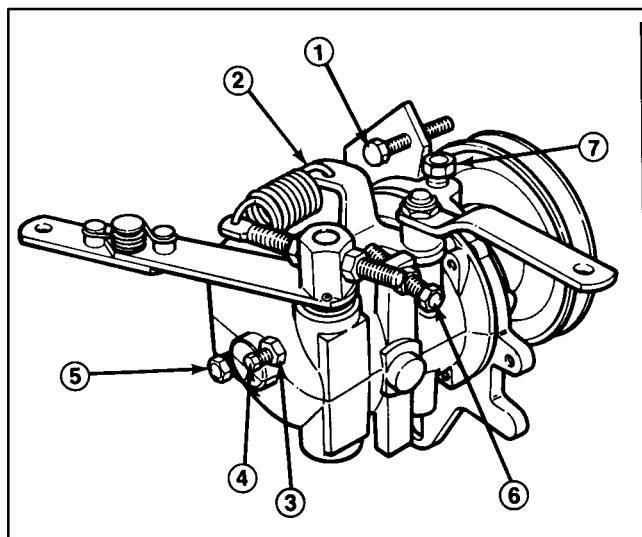

Figure 39
- Slowly move throttle to FAST position until engine speed reaches 3200 ± 100 rpm. Shut off engine. Adjust high idle stop screw until it contacts speed control lever (Fig. 39).
- Check V-belts from engine to governor pulley and assure they are tight. If belts are loose, the engine will surge. If belts are tensioned properly, loosen jam nut that retains the anti-surge screw (Fig. 39). Rotate screw clockwise $1/8$ turn at a time until surging stops. Should governor continue to surge, check the following:
3. Clean area around check plug on governor (Fig. 39)